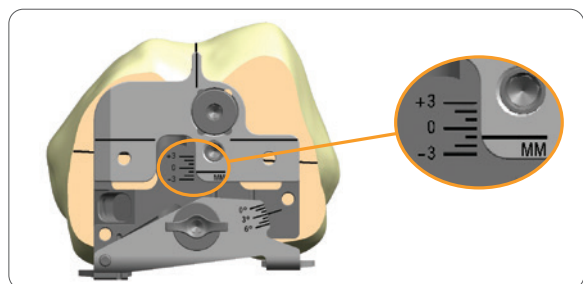

Figure 24
3. If there exists a known flexion/extension imbalance, unlock, translate and relock the drill guide appropriately (**Figure 24**).